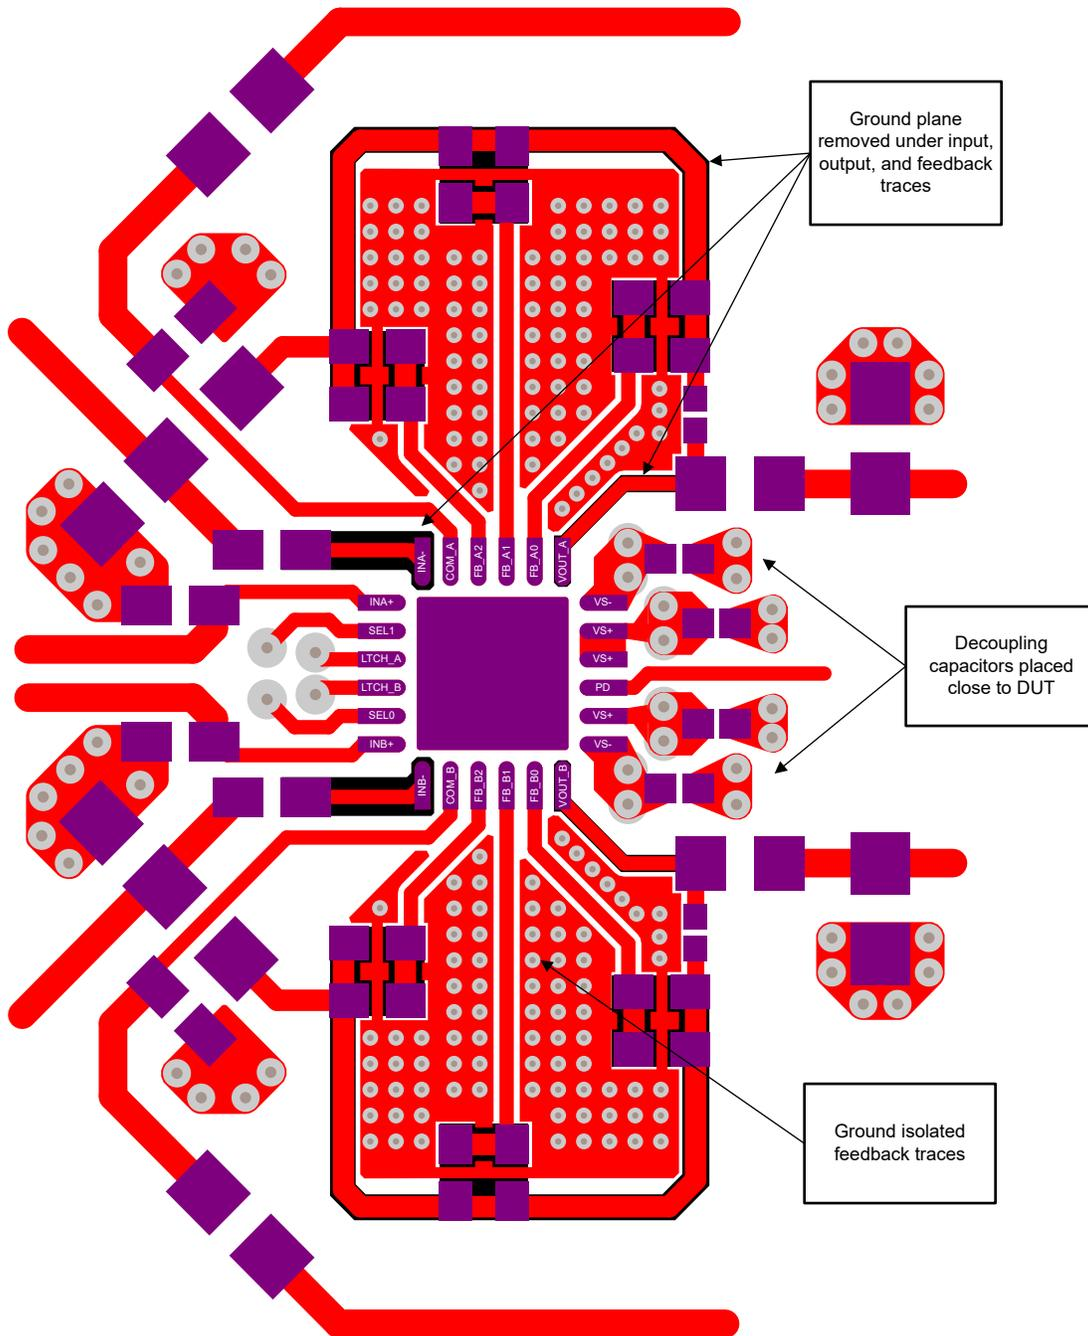
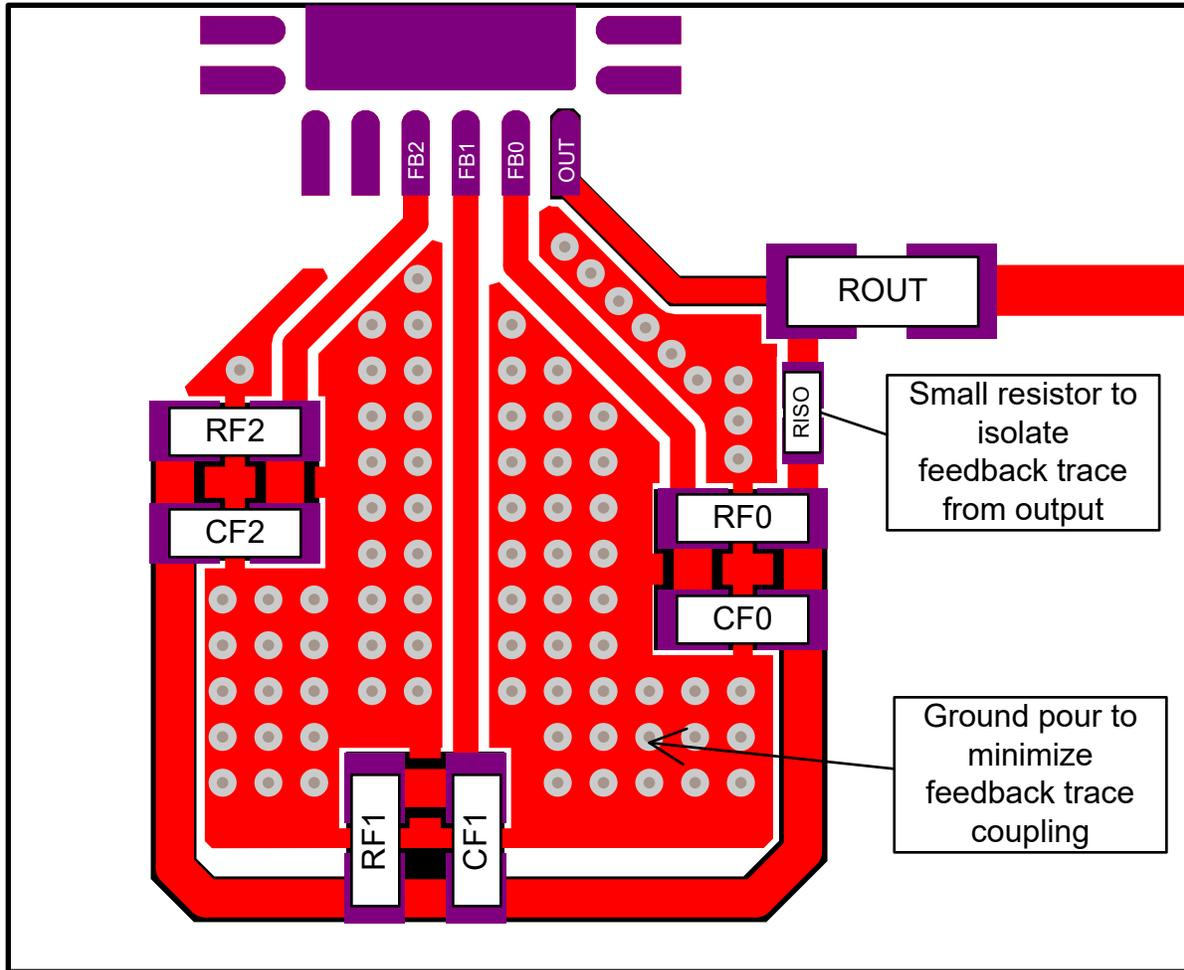

图 11-1. General Layout Example
图 11-2. Feedback Network Layout Recommendations
**Figure 11-1** shows a typical layout around the OPA3S2859-EP based on the evaluation module. The smallest decoupling capacitors were placed as close as possible to the DUT with wide metal area to minimize inductance. Special attention was placed on the feedback network layout to optimize the design for a typical application using 1 k Ω , 10 k Ω , and 100 k Ω feedback resistors. Please see **Figure 11-2** for more details. The black colored areas under the input and feedback traces show the voids cut in the ground plane underneath the traces to minimize capacitance to ground as much as possible.
图 11-2 shows an example of a feedback network from the evaluation module optimized to reduce the capacitive coupling between the feedback and output traces. Ground plane is poured between each of the feedback traces and component footprints as much as possible for the best isolation. A small isolation resistor (RISO) is connected between the output and feedback trace to help isolate the trace capacitance from being directly connected to the DUT output. Additionally, the ground plane is removed from under the feedback trace to further reduce the parasitic capacitance to ground created by the additional trace length required for the feedback network.